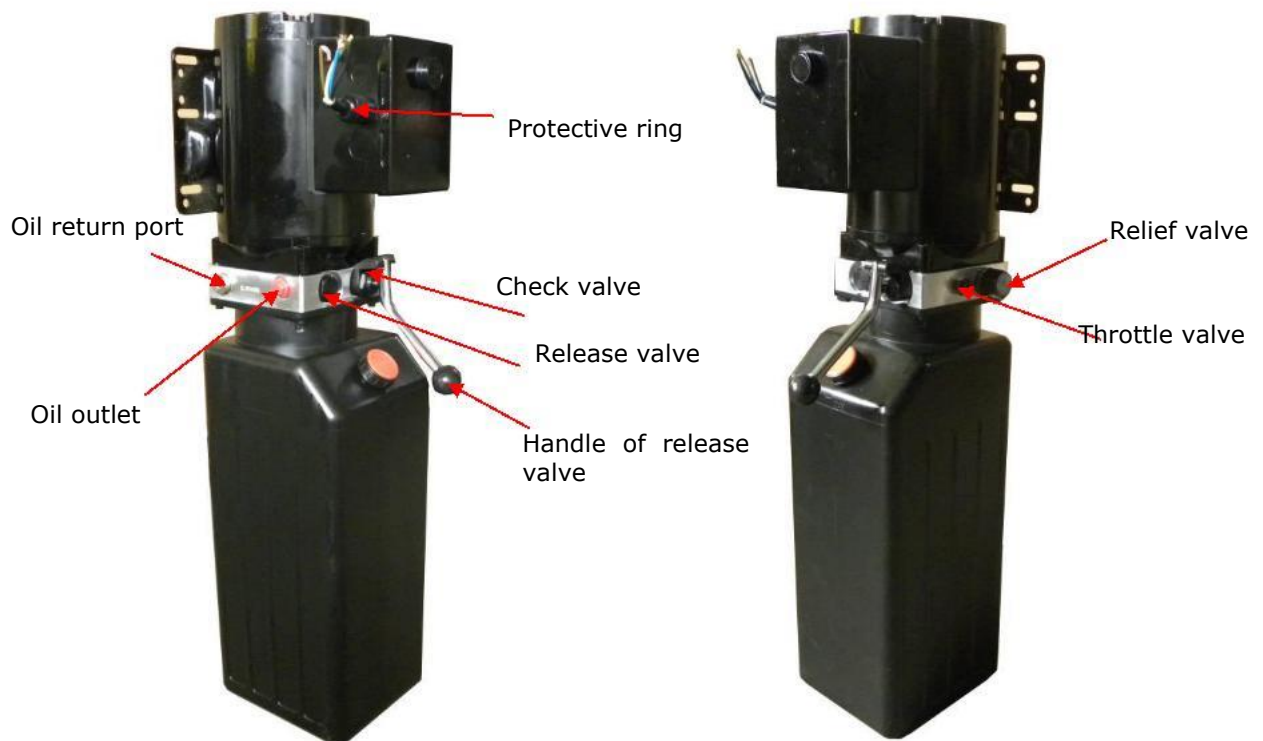

Fig. 48
C. Indypro manual power unit, 380V/50HZ, 3 phase (See Fig. 48)